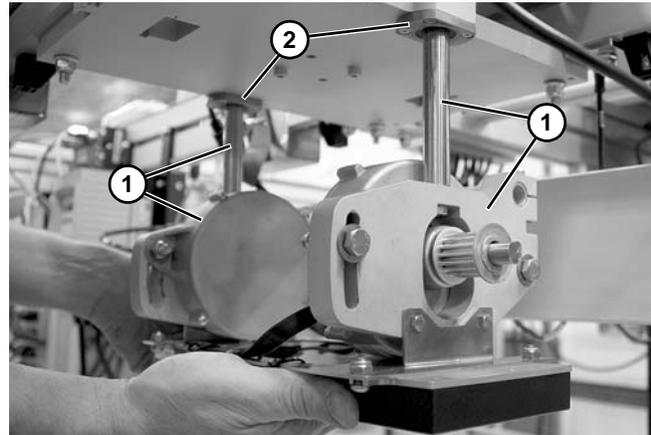

Figure 111
5. Lower drive assembly and shafts (Figure 111, item 1) from bearings (Figure 111, item 2).